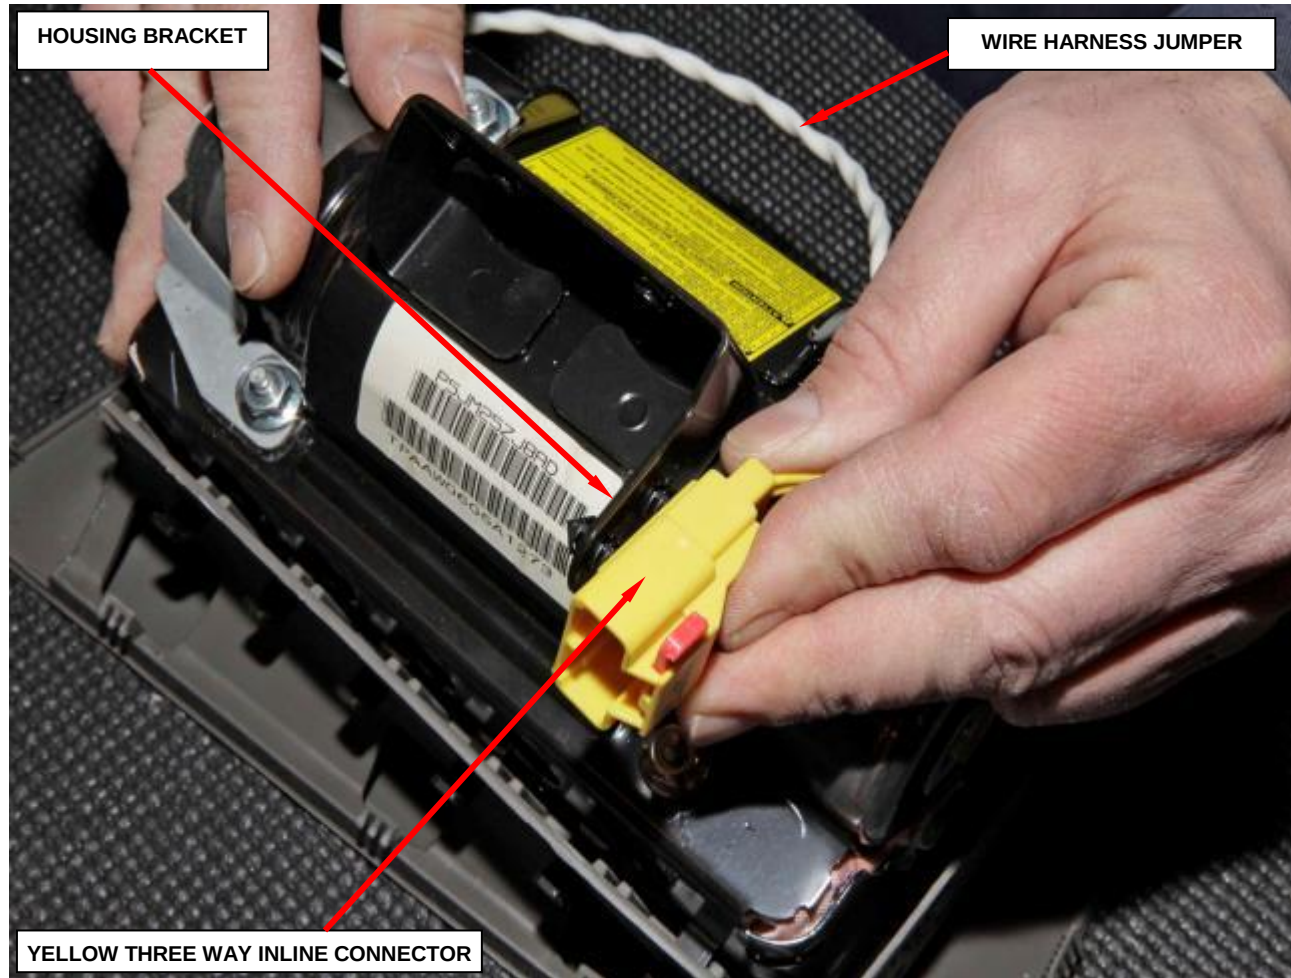

Figure 51 – Inflator Connectors
- d. Release the yellow three way inline connector from the housing bracket (Figure 51).